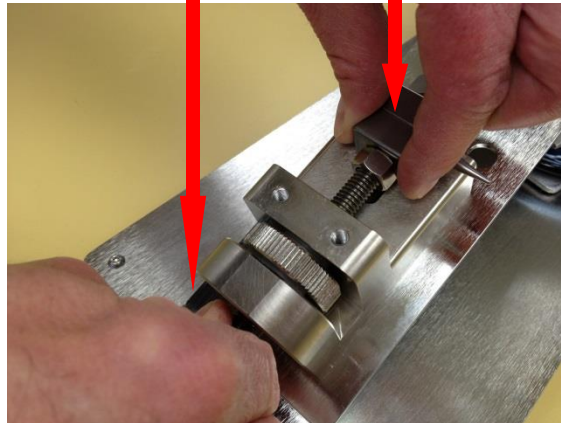

Figure 3.4.14
- Remove the *locking hex nut* and turn threaded rod by hand and rotate threaded rod counter clockwise while holding the lower expander jaw until the jaw is removed. *Figure 3.4.14*